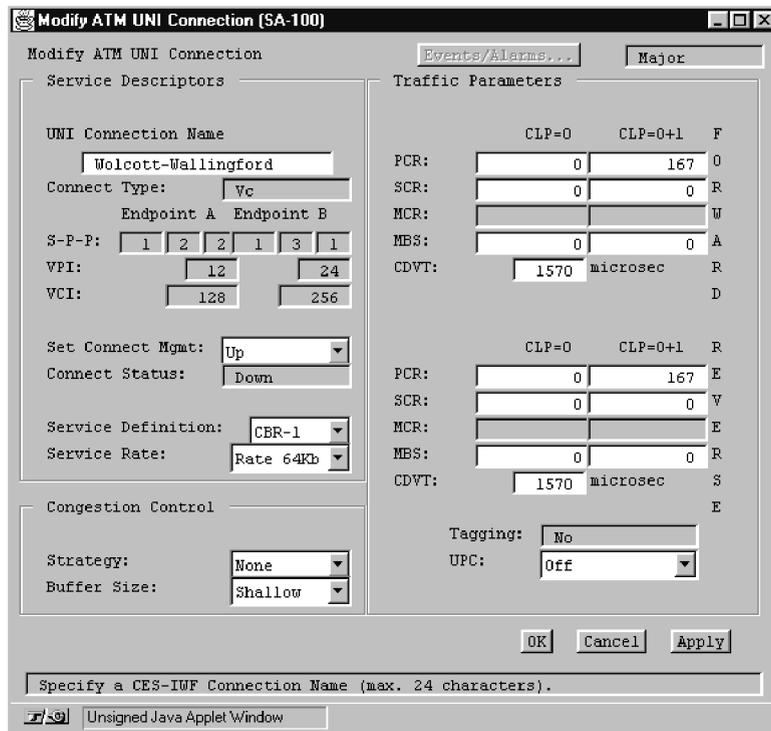

Figure 5-6. Modify ATM UNI Connection Window
2. Choose the Modify button. The Modify ATM UNI Connection window appears (see Figure 5-6).
To make an ATM UNI connection from the Add ATM UNI Connection window (Figure 5-4 on page 5-9) or Modify ATM UNI Connection window (Figure 5-6 on page 5-18):